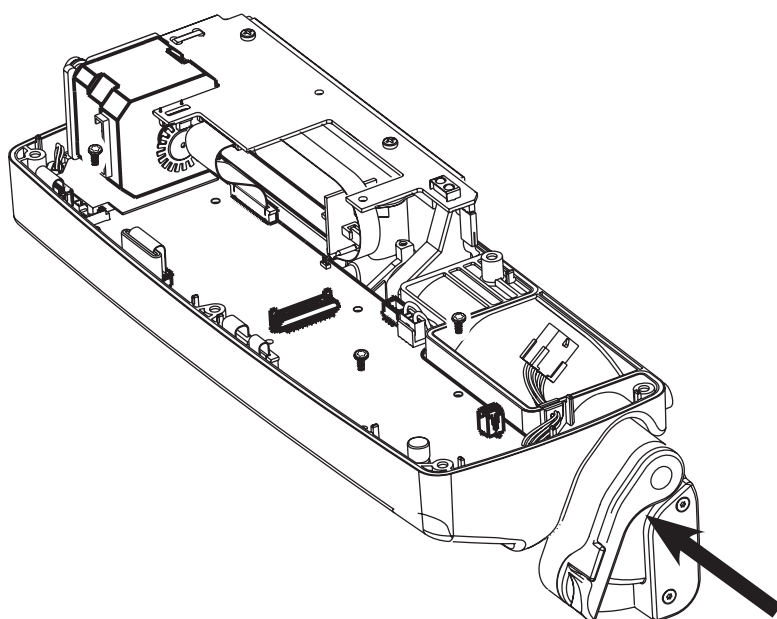
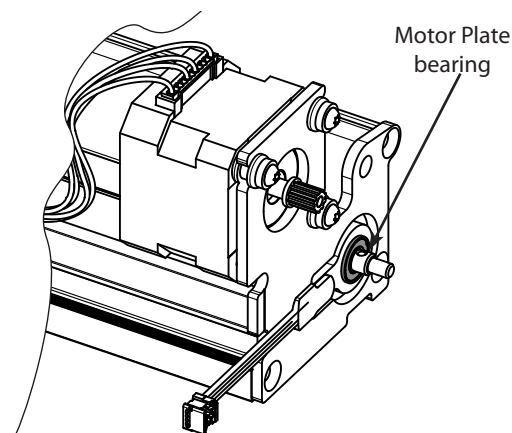

Figure 1
Figure 2
- With the case open and the mechanism NOT declutched, try to push the plunger in the direction shown in figure 1. Check that there is no movement of the motor plate bearing (figure 2). If there is movement this would indicate a loose motor plate bearing.